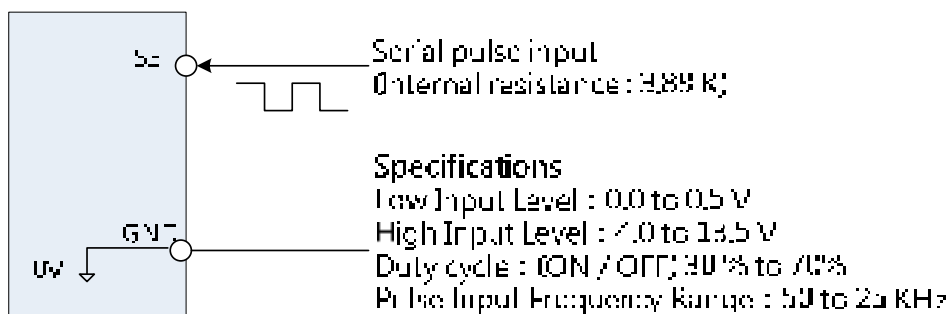

Figure 4.3.5 Frequency reference from pulse input
**(4) 00-05/00-06=4**
**(5) 00-05/00-06=5**
**(6) 00-05/00-06=7**
- To use this function a pulse train input is required to be connected to the PI input and GND, please refer the photo as Fig.4.3.5. PI input terminal, built-in resistance, is not required to connect the resistance if open collector input mode is used